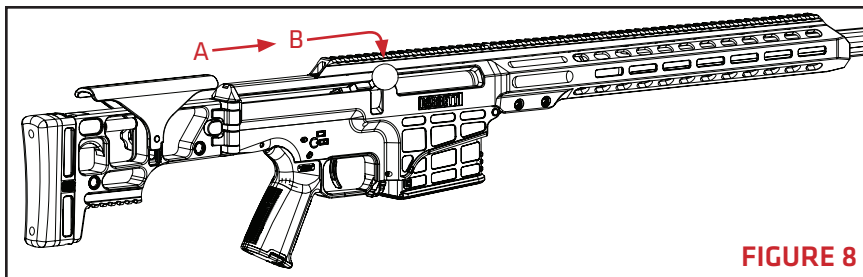

FIGURE 8
5. Push the bolt handle forward (**FIGURE 8-A**), then down (**FIGURE 8-B**). This will strip a cartridge from the magazine, and load the cartridge into the chamber.